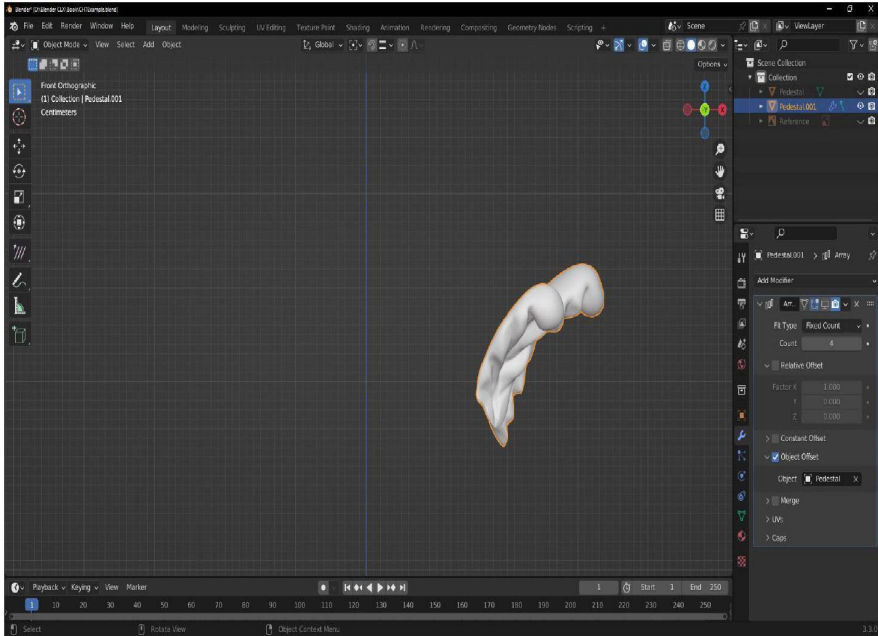

Figure 7.5: Sculpted leaf detail with Array copies hidden, viewed from the side
4. Orient the view to look at the leaf detail from one side, as shown in *Figure 7.5*.